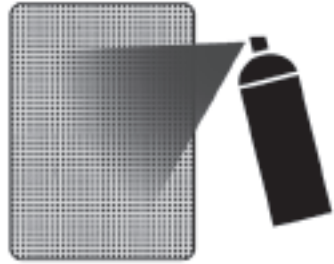

Figure 9
3. After removing the grille by carefully hooking it with a bent paper clip and pulling it gently away from the frame, spray on two thin coats of finish color. [Figure 9]